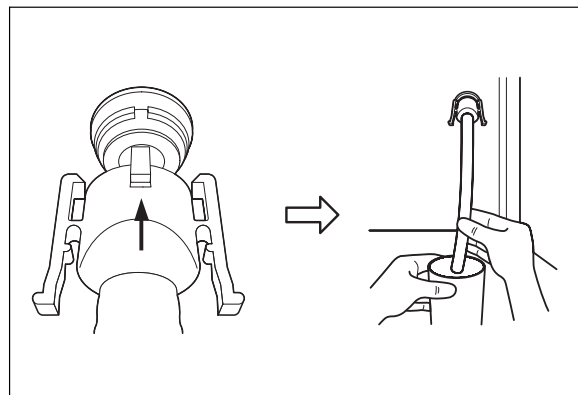

Figure 7.61
14. Put the tube-side end of the disinfectant removal tube in the container (small), and connect the disinfectant removal tube to the disinfectant removal port to drain the small amount of residual disinfectant solution from the disinfectant solution tank (see Figure 7.61).